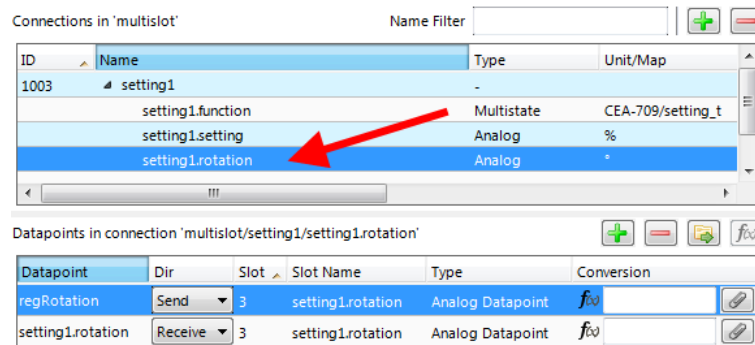

Figure 21: Add data point to connection slot.
6. Connect other data points to existing slots by dropping them onto the respective slot. For example, connect the register 'regRotation' by dropping it onto 'setting1.rotation' as depicted in Figure 21.